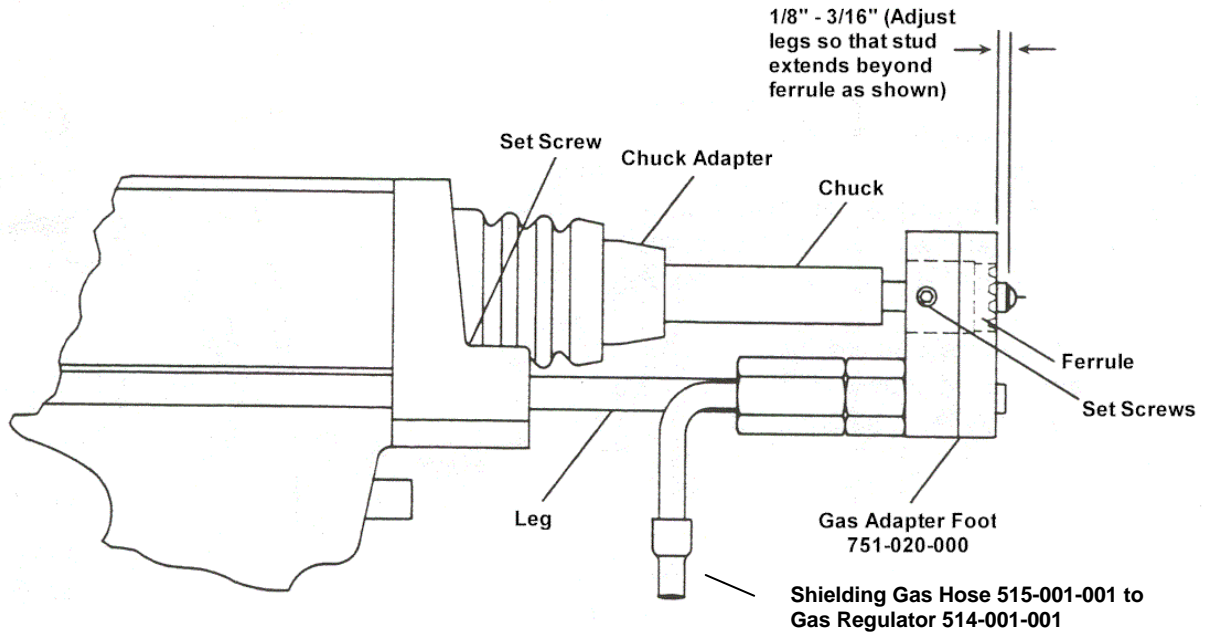

Figure 2
2. Insert chuck in the chuck adaptor. While holding the gun by the chuck adaptor, lightly tap the chuck with a hammer until it is seated and held firmly in the taper of the chuck adaptor (See Figure 2).
When welding 3/16, 1/4, and 5/16-inch diameter studs, use the insert grip included with adaptor (See Figure 2). Remove insert grip when welding 3/8, 7/16, and 1/2-inch diameter studs.
1. Loosen leg set screws and adjust the legs so that the stud extends 1/8" to 3/16" beyond the Gas Adaptor Foot Assembly. Measure from edge of chamfer on stud as shown in Figure 2.